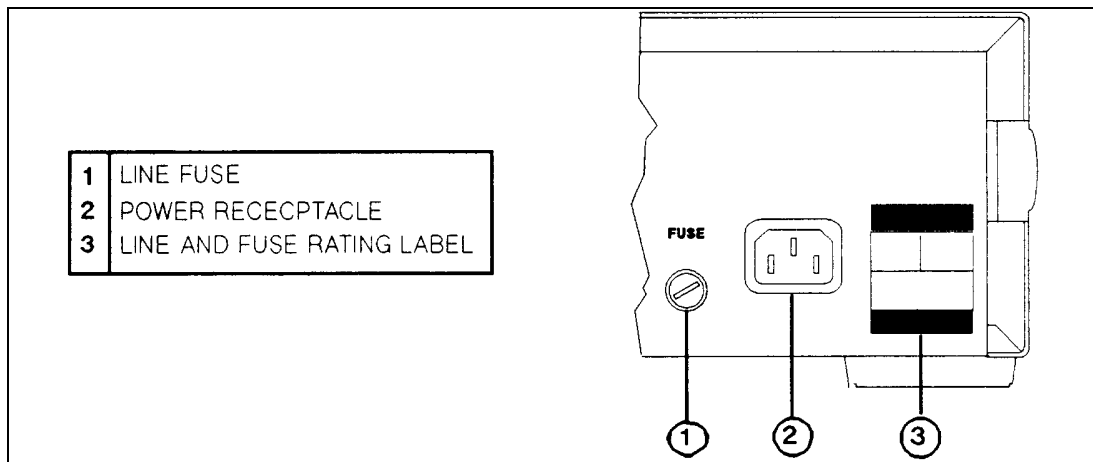

Figure 2-1. Series 654xA and 655xA Power Connection
You can operate your supply from a nominal 100 V, 120 V, 220 V, 230 V, or 240 V single-phase ac power source as indicated on the rear panel line Rating label. See "AC Input Ratings" in Table 1-1a for the voltage and frequency range for each type of power source. "Maximum AC Line Current Ratings" in Table 1-2a shows the required current load. The line fuse is located in a fuseholder on the rear panel (see Figure 2-1). The Line Fuse label on the rear panel shows the fuse value used in the power supply and Table 1-4 identifies the replacement fuse.
If required, see Figure 2-1 in Chapter 2 and Figure 4-1 in Chapter 4 for parts locations.
- II. Examine the Line And Fuse Rating label (3, Figure 2-1).
- B. Use a screwdriver to remove the line fuse from the fuseholder (1, Figure 2-1). Verify that the fuse is as specified on the label. Replace the fuse.